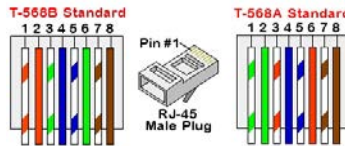

Figure 23: Standard cable wiring
- c. Insert the eight wires into an RJ45 connector (see *Figure 23*).